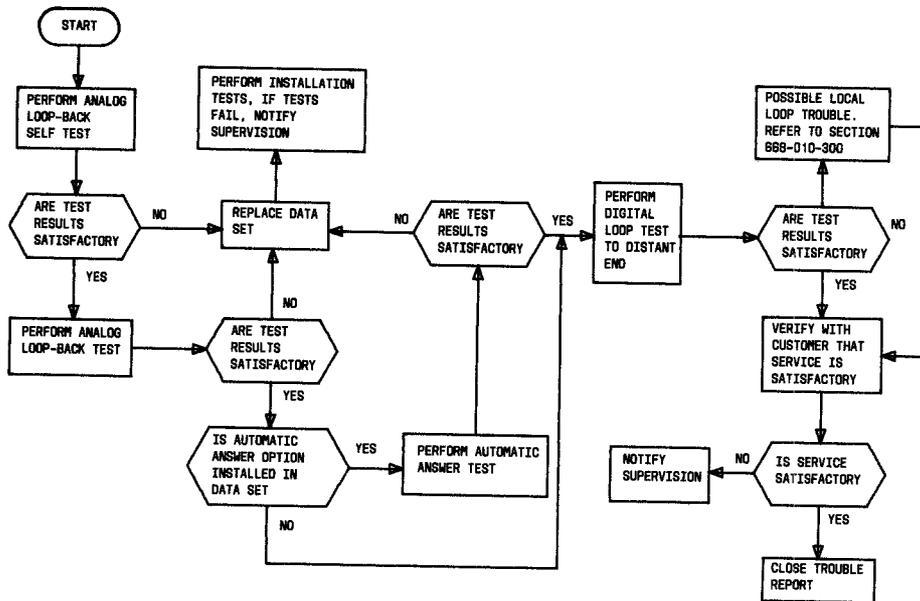

Fig. 4—Maintenance Test Sequence
**3.04** Refer to Fig. 4 for the sequence in which tests are to be performed by the telco employee at the data station. If the data set is replaced, the defective data set should be tagged with a tag describing the nature of the trouble, carefully packed and returned to a service center for repair. Verify that the replacement data set is equipped with the proper options before placing the data set in service.